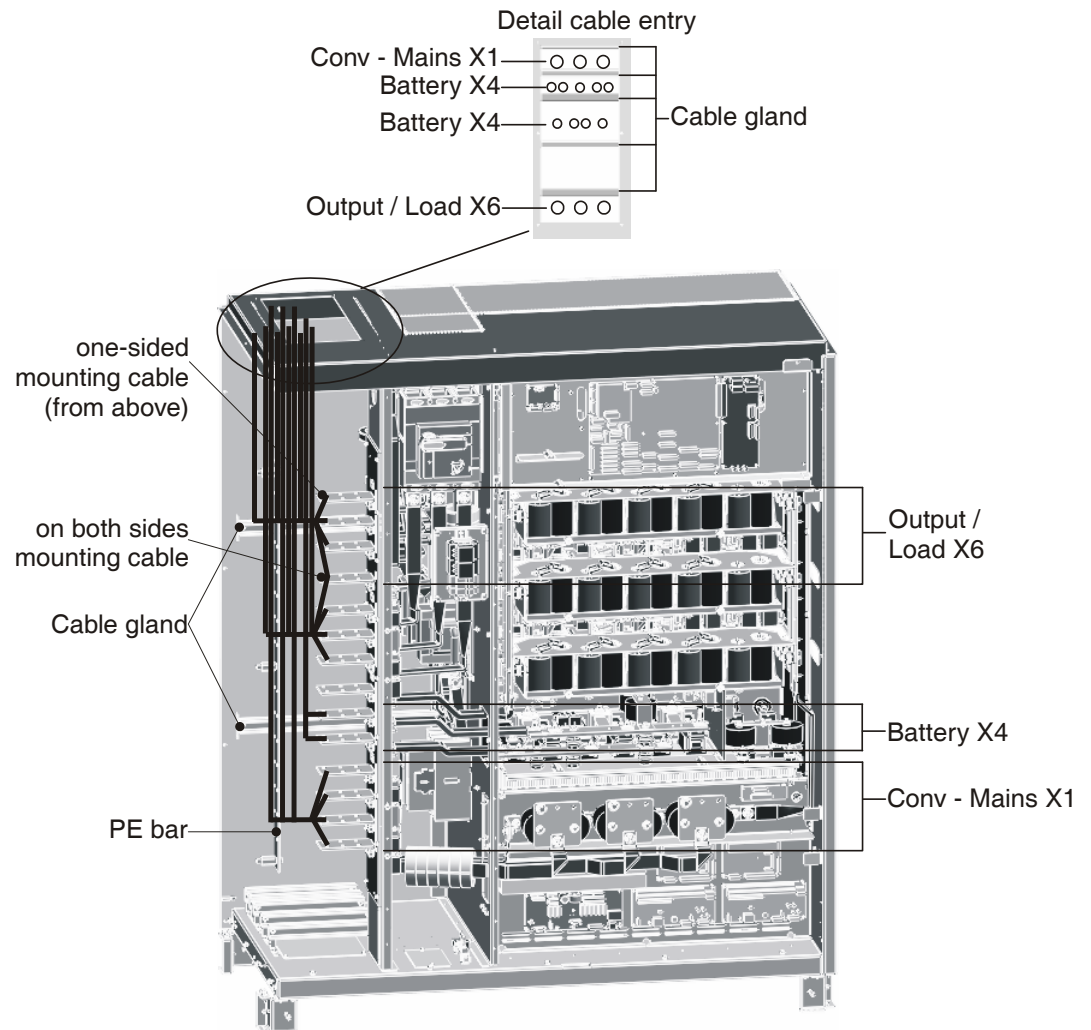

Fig. 6-12 Cable installation in the cable compartment with cable entry from above, AC 300 – 500 kVA, illustrated on the AC 300 kVA
The installation sequence depends on the arrangement of the connecting terminals. We recommend that the installation procedure described in the following steps be followed. In this case the cable routing in the roof is effected from the rear to the front and the termination panel connected up from top to bottom at the same time. During installation pay particular attention to the illustrations in Fig. 6-12 and the notes underneath this figure.
1. The connecting cables of the converter mains infeed (X1) should be installed first. For this, a cable supporting rail should be mounted right at the back under the roof for the cable entry. The mains infeed cables are laid and supported alongside each other on this rail. As Fig. 6-12 shows, the mains infeed terminals are in the lower area of the termination panel. When laying the cables, the two supporting rails at the back of the cable compartment can be used for attaching the cables. The connections to terminals X1.1 (L1), X1.2 (L2), X1.3 (L3) and X1.N (N) are made to the connecting bars from above using cable lugs. The protective conductor should be connected to the PE busbar at the left-hand side panel.
3. The load connecting cable (X6) should be installed in the final step. In order to support the infeed cables, a further supporting rail should be fitted under the roof immediately in front of the bypass mains infeed cables. The load cables are laid and supported alongside each other on this rail. Connections to terminals X6.1 (L1), X6.2 (L2) and X6.3 (L3) are made to the connecting rail from above, using cable lugs. The connection to terminal X6.N (N) is made to the connecting terminal from below, using a cable lug. In this case the cables for the bypass mains neutral conductor remain connected from below. The protective conductor should be connected to the PE busbar at the left-hand side panel.